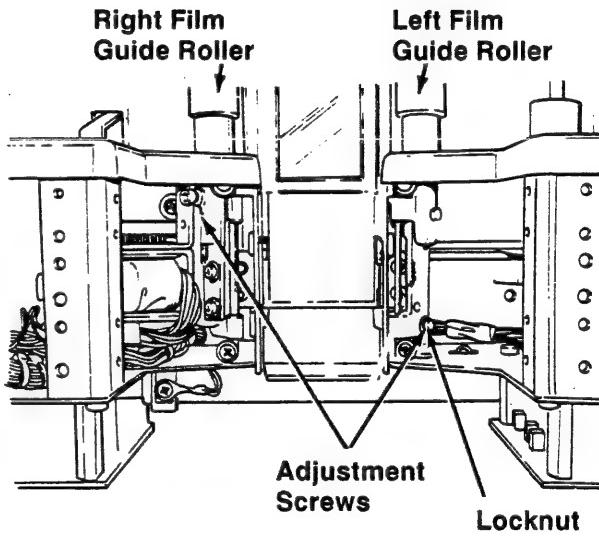

Figure 3-9A
9. Loosen the Locknut and turn the Adjustment Screw for the Left Film Roller clockwise to lower the film and counterclockwise to raise the film as required (Figure 3-9A).
10. Turn the Adjustment Screw for the Right Film Roller counterclockwise to raise the film and clockwise to lower the film as required (Figure 3-9A).